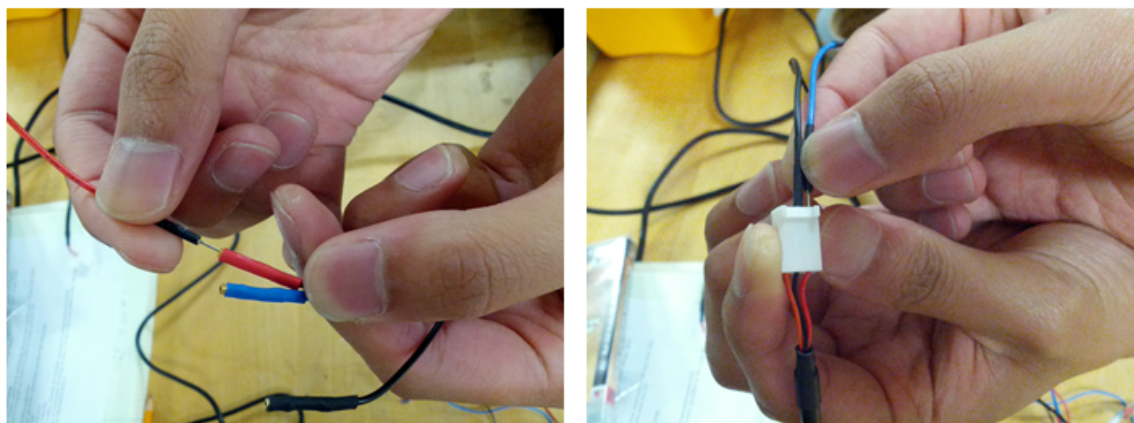

Figure 7 - Procedure to connect sensor wires to male-to-male connector.
All of the sensors in this lab require 3 things: +5V Power (Red), Ground (Black), and Signal V_{out} (Blue). On the LabQuest Connector, orange is power (+5V), black is ground, and red is the signal. You will need to use the male-to-male connectors (color of the connector is irrelevant) as shown in Fig. 7.
2. As shown in Fig. 7, connect the Thermistor (wires labeled "TH" coming from the PS3) to Labquest 1, Channel 1.